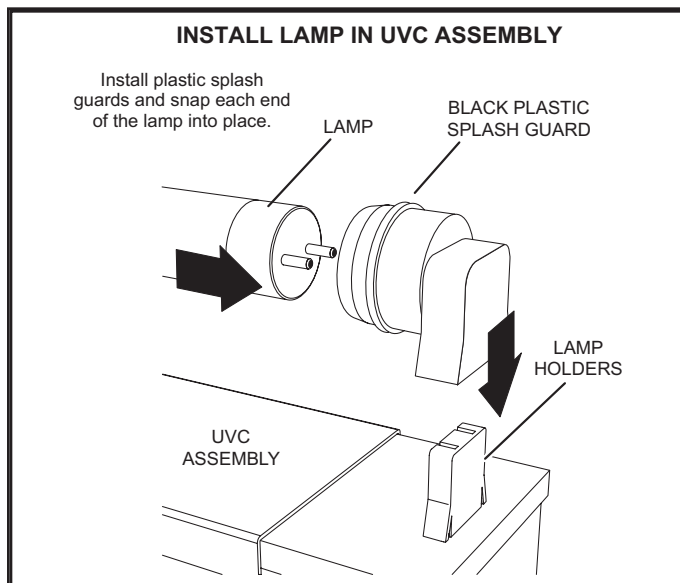

FIGURE 1
- 1 - Wear cotton gloves or use a cotton cloth when handling the new lamp. To install the lamp, remove two black plastic splash guards from the lamp holders on each end of the UVC assembly. Gently but firmly push in the splash guards on each end of the lamp. See FIGURE 1.